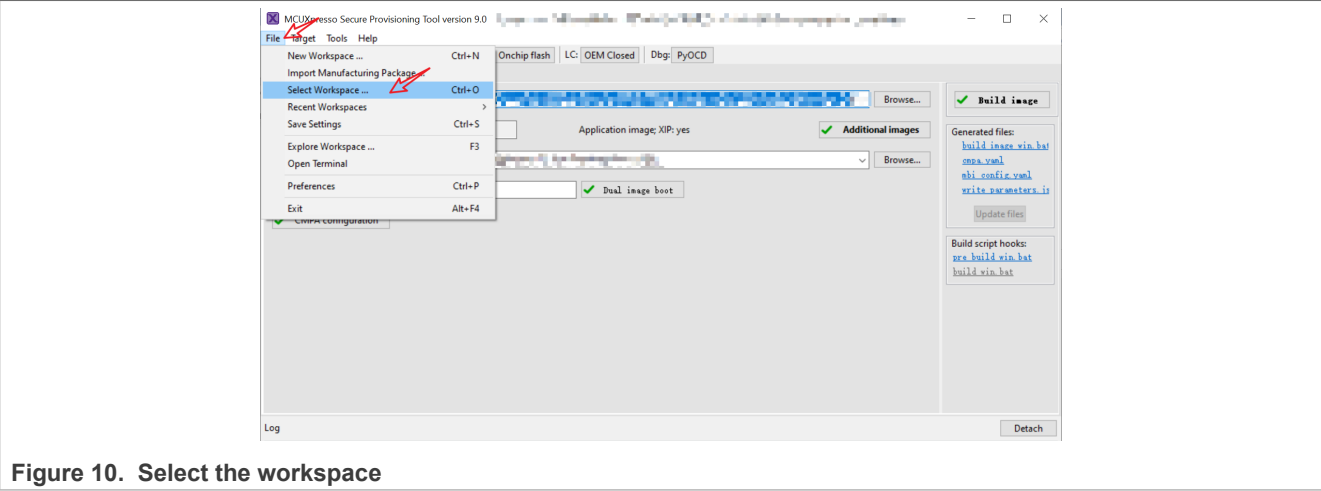

Figure 10. Select the workspace
- a. Open MCUXpresso Secure Provisioning Tool and select the workspace, as shown in Figure 10.